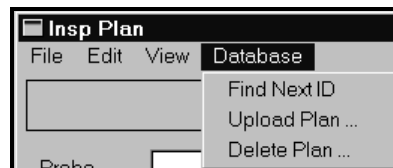

Figure 3-89. Plans > Database Menu
As shown in Figure 3-89, the Database menu contains three (3) choices. They are Find Next ID, Upload Plan..., and Delete Plan....